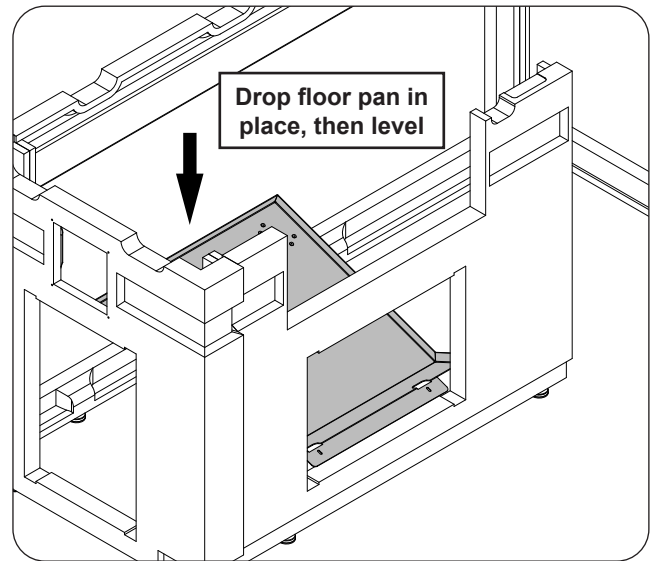

Fig. 10-2 Place floor pan
1. Place floor pan into the access door cutout as shown (see Fig. 10-2).